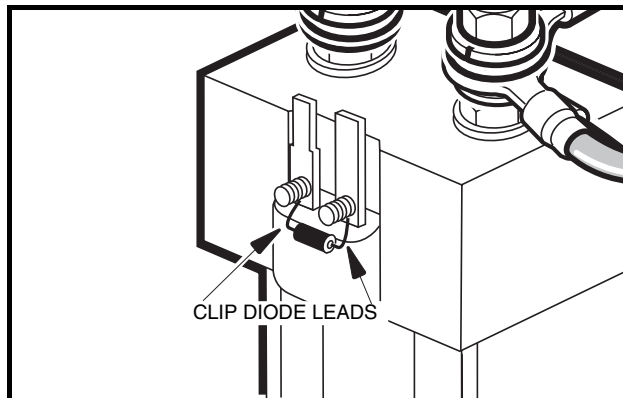
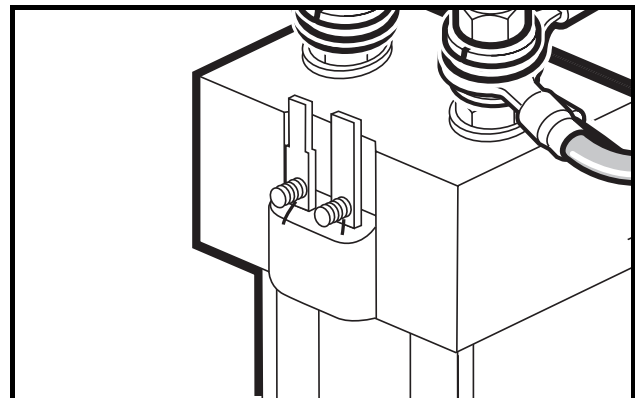

Figure 12-8 Diode Removal
Figure 12-9 Solenoid with Diode Removed
- 3.1. Place the probe end of the tester on the small terminal of the solenoid marked positive (+) and clip the wire on the other small activating coil terminal of the solenoid (**Figure 12-8, Page 12-10**). The tester should illuminate, indicating continuity.
- To remove the diode, carefully clip the two leads where they attach to the solenoid terminals (**Figure 12-8, Page 12-10 and Figure 12-9, Page 12-10**). See following **NOTE**.